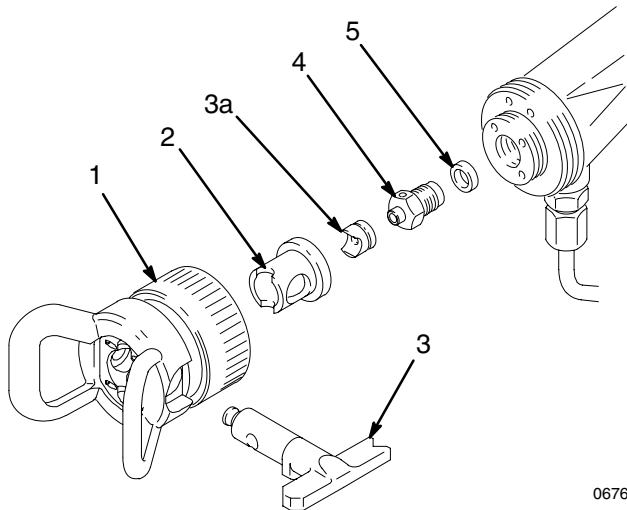

Fig. 1
3. While triggering the gun, remove and *discard* the diffuser-seat (4) and fluid gasket (5). See Fig. 1.
NOTE: The diffuser-seat you remove will not look the same as the new diffuser-seat, item 4 in Fig. 1.
4. Install the new fluid gasket (5) and diffuser-seat (4) from the kit into the gun.
5. Install the new RAC housing (2) into the air cap assembly (1). Align the parts, and install the tip cylinder (3).
6. Install the fluid seat (3a) into the housing (2), behind the tip cylinder (3). Align the parts.